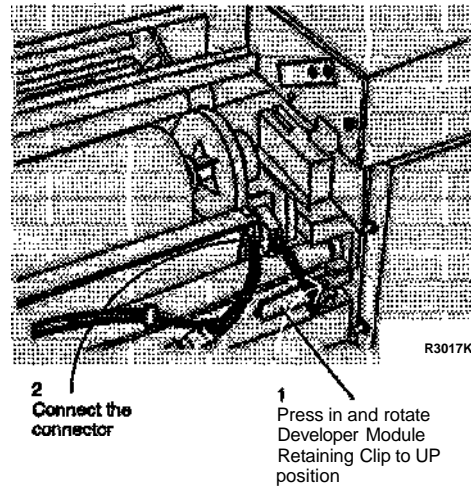

Figure 14. Reinstalling the Developer Module
21. (Figure 14): Reinstall the Developer Module.